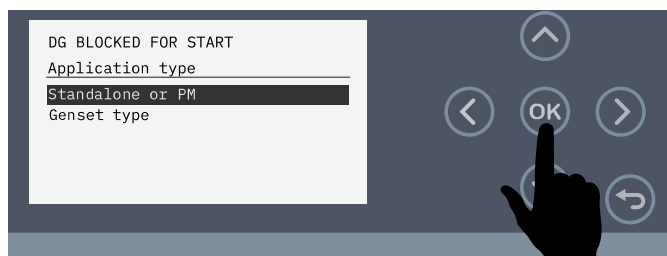

Figure 76. Select Standalone Or PM
5. Make sure **Standalone or PM** is highlighted (Figure 76), then press the OK button.